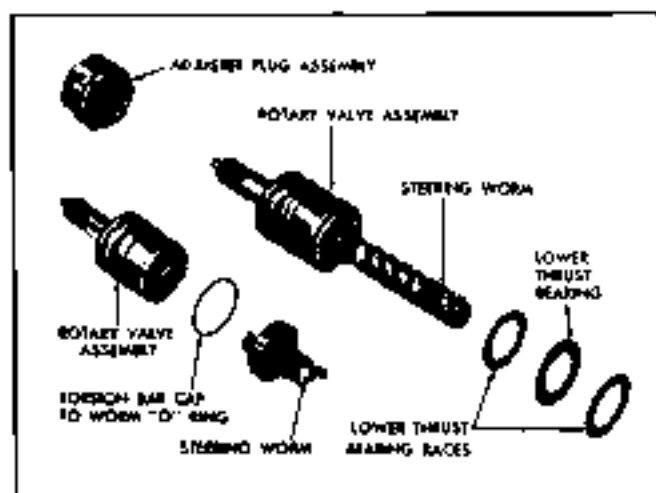

Fig. 9-61 Adjuster Plug and O-Ring Removal
- Remove adjuster plug from rotary valve and torsion bar by pulling straight out (Fig. 9-61).
- Remove lower bearing and discard torsion bar cap to worm O-ring (in the Rotary Valve). See Fig. 9-61.